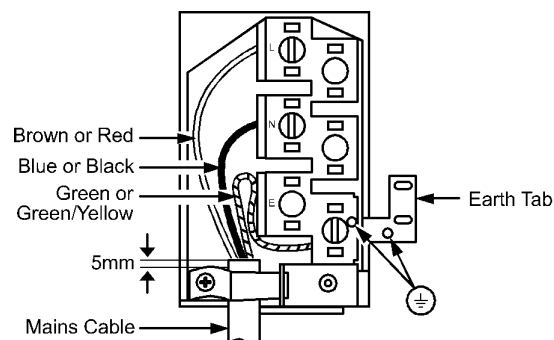

Fig.7
- Make connection as shown in Fig. 7 by proceeding as follows:-
- Clamp the mains cable securely ensuring 5mm of the outer insulation is inside the terminal block and that the wires are not taut but not so slack as to cause any fouling. See Fig. 7.